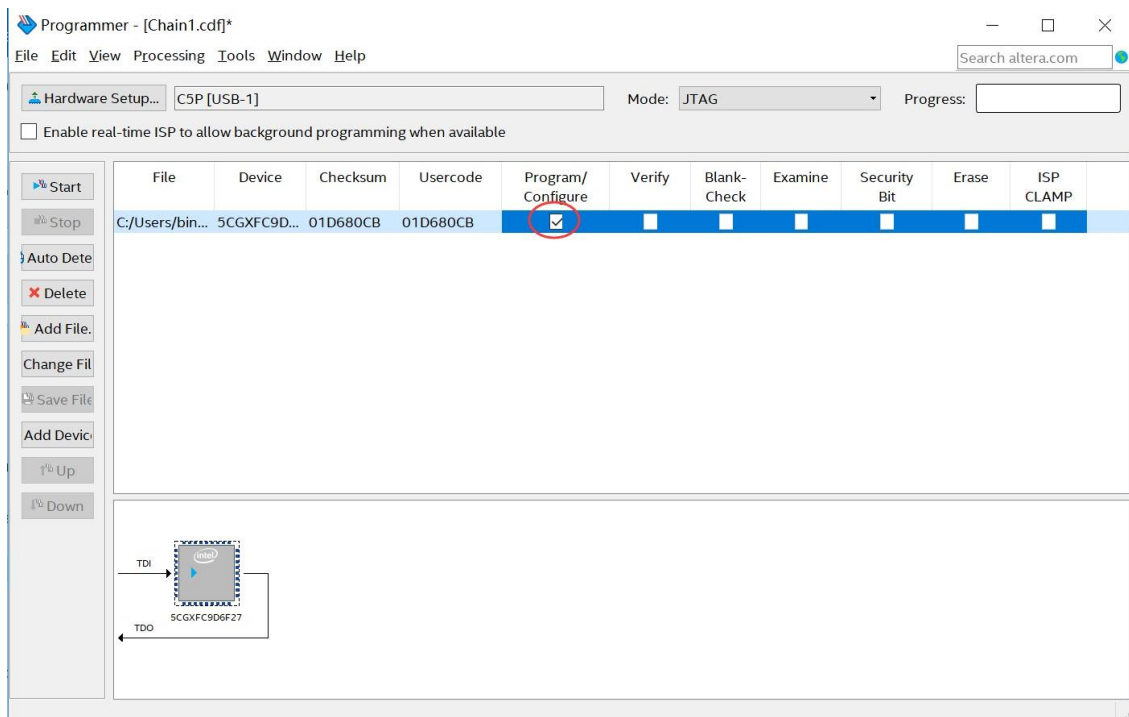

Figure 3-7 Program .sof file into the FPGA device
- Click “Program/Configure” check box and then click “Start” button to download the .sof file into the FPGA device, as shown in **Figure 3-7**.